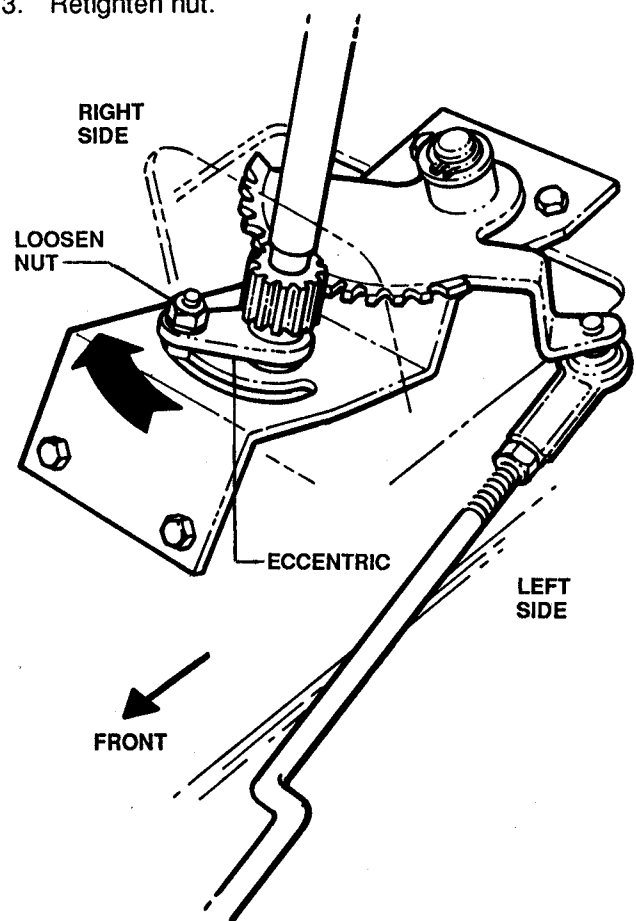

FIGURE 30
- Working from the left side of the tractor, use a 7/16" wrench to loosen nut on top of carriage bolt. See Figure 30.